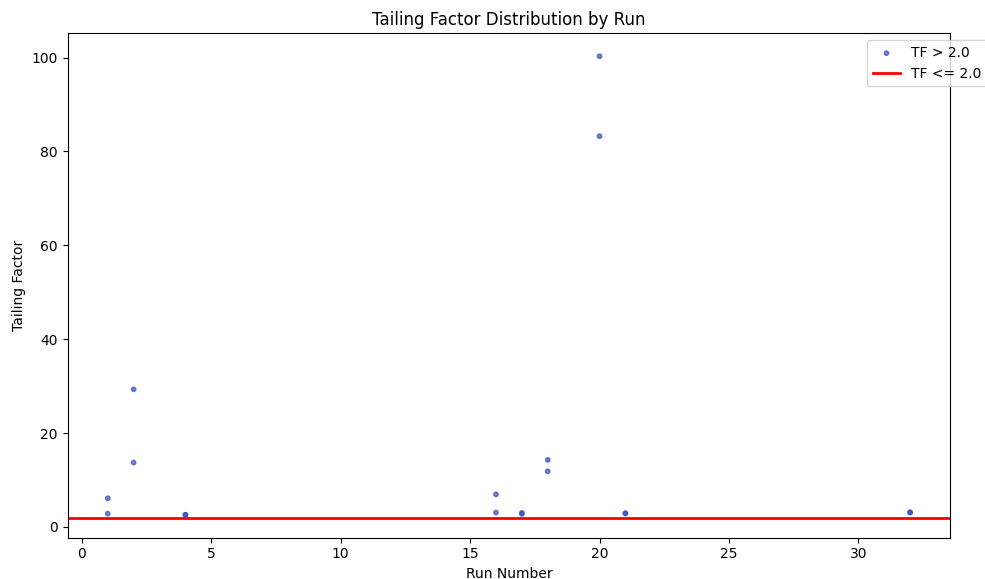

Figure 2: Figure 2: Scatter plot of Tailing Factor distribution by run, with red points indicating values exceeding the 2.0 threshold.
The analysis successfully identified the distribution of peak shape metrics across the 11 unique runs analyzed. Regarding peak fronting, Figure 1 illustrates the Fronting Factor (FF) distribution. The plot displays 11 distinct data points, all color-coded blue, indicating that every analyzed run maintained an FF value of 2.0 or less. The absence of any red points above the $y=2.0$ threshold confirms that the chromatographic peaks across the entire dataset did not exhibit significant fronting. This result suggests that the process did not suffer from issues typically associated with column overload, void volume anomalies, or severe sample degradation that would cause the leading edge of the peak to sharpen excessively. The consistency of the blue coloration across all runs indicates a stable fronting profile relative to the established quality criteria. Conversely, Figure 2 presents the Tailing Factor (TF) distribution, revealing a more complex pattern. While the majority of runs fall within the acceptable blue range ($TF \leq \$2.0\$$), the presence of red points indicates that a subset of runs exhibited TF values exceeding the 2.0 threshold. This deviation suggests Gaussian elution profiles characterized by prolonged retention times in the tail region. Such tailing can be indicative of column degradation.